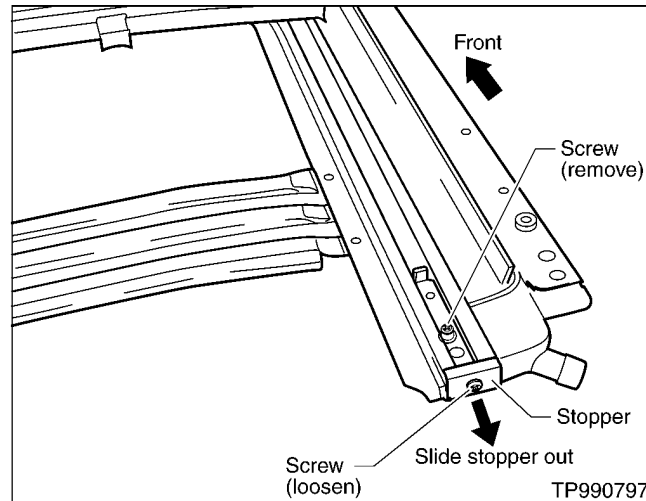

Figure 6
- A. Loosen (but do not remove) the screw in the end of the stopper (see Figure 6).
- B. Remove the screw on the top of the stopper (see Figure 6).
- C. Slide the stopper out of the sunroof rail assembly (see Figure 6).